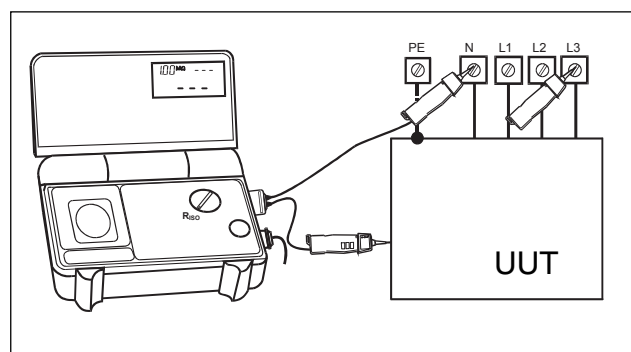

Fig.6.13
- Connect COMMANDER 2 test probes (or measurement accessories, if required) to UUT, see Figure 6.13: